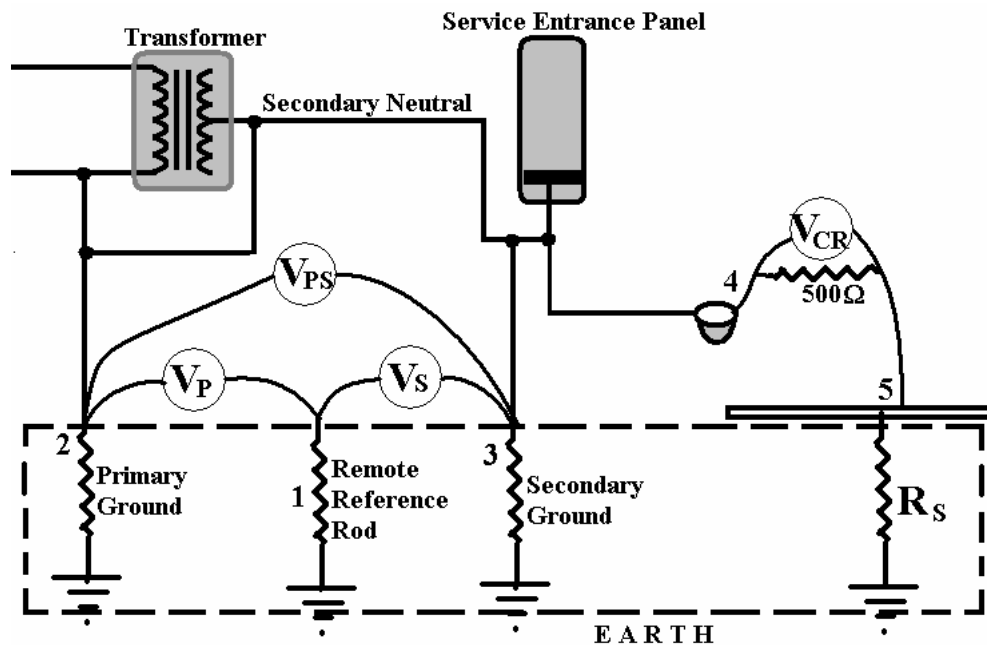

Figure 1: Measurement connections.
Five (5) measurement points are required to perform this test (refer to Figure 1):